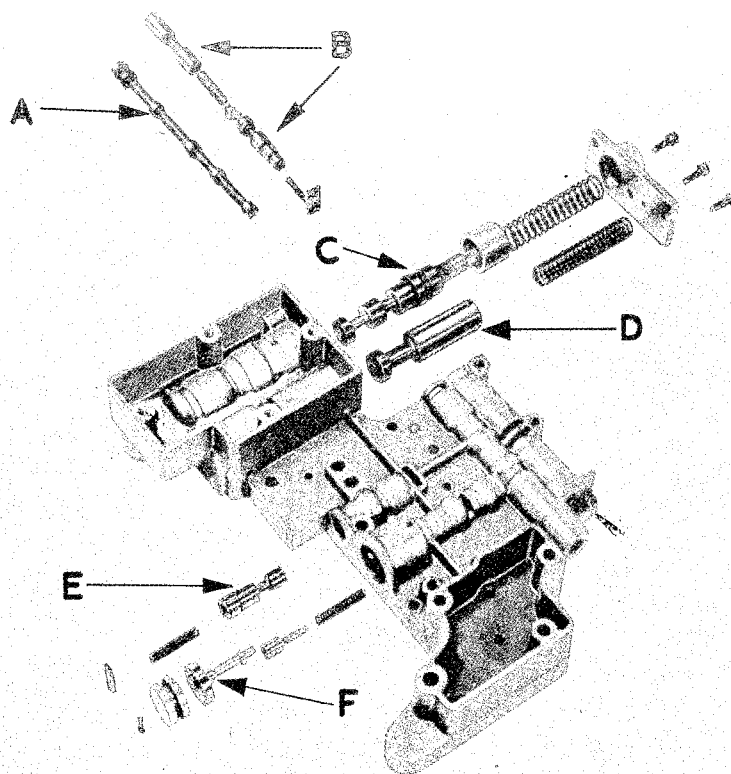

**Fig. 4-77. Check valves in lower valve body**
10. Remove the separating plate and then the check valves for the fast 3-2, see Fig. 4-77. Withdraw the manual control valve, see "A", Fig. 4-78.